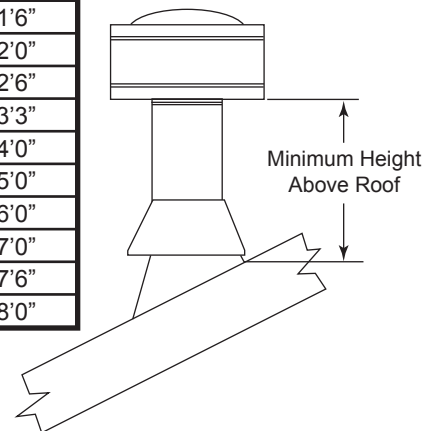

Fig. 47 Minimum Height Above Roof Requirements
11. Add lengths of pipe and firestop as necessary until assembly extends to a point above the roof which complies with local code requirements for minimum termination height and with the appliance manufacturer's installation instructions. (Fig. 47)